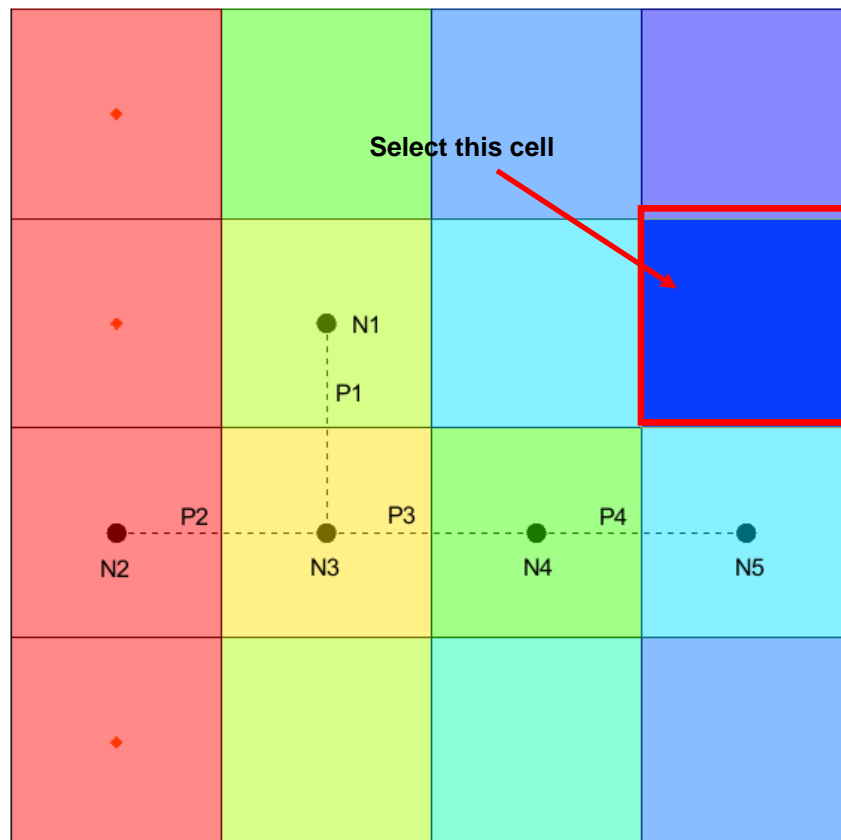

Figure 10 Cell to select for added well
5. Using the **Select Cells**  tool, select the cell in row 2 and column 4 (*IJK* = 2,4,1, see Figure 10).